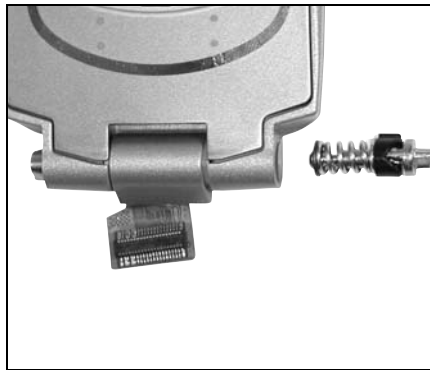

Figure 7-15.
1. The Flip Assembly should have the left-side Retaining Rod, right-side Y-Hinge Rod, and Center Brace in position (see Figure 7-15).